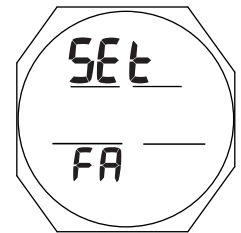

Fig. 108 - SET FA LEAD-IN
**Set FA Lead-in**, information includes (Fig. 108):